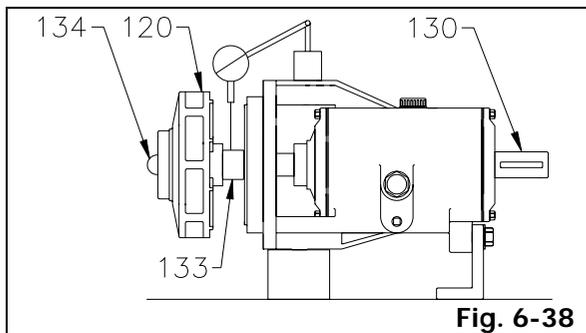

Fig. 6-38
15. Check shaft (130) or shaft sleeve (133) run out. Put on shaft sleeve (133), key for impeller (135), impeller (120), and thread on impeller nut (134), hand tight. Rotate shaft (130) 360°. If total indicator reading is greater than 0.05mm, disassemble and determine cause. Remove impeller nut (134), impeller (120), key for impeller (135) and shaft sleeve (133) (Fig. 6-38).